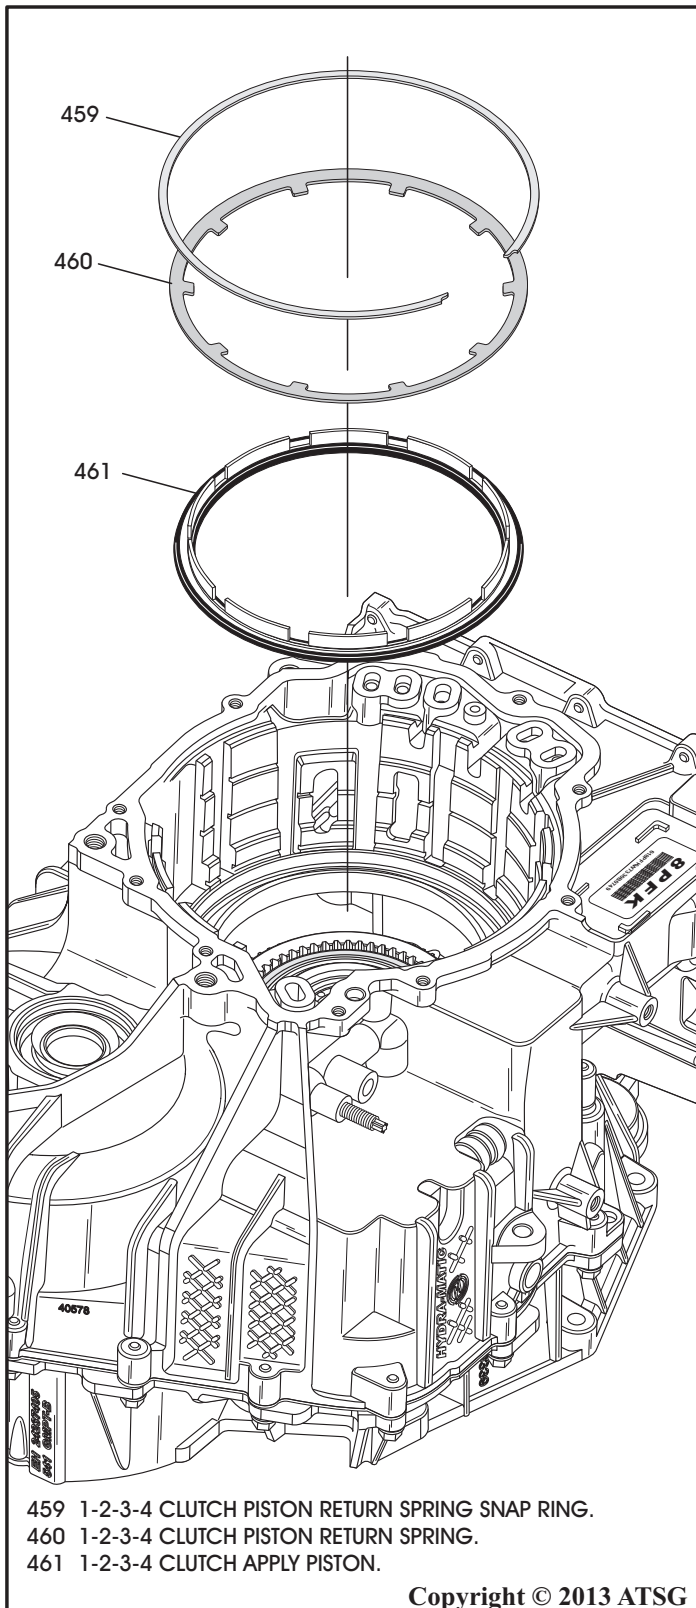

Figure 67
48. Remove the snap ring from the case groove that retains the 1-2-3-4 piston return spring, as shown in Figure 67.
49. Remove the 1-2-3-4 clutch piston return spring, as shown in Figure 67.
50. Remove the 1-2-3-4 clutch piston, as shown in Figure 67, using a pair of pliers.